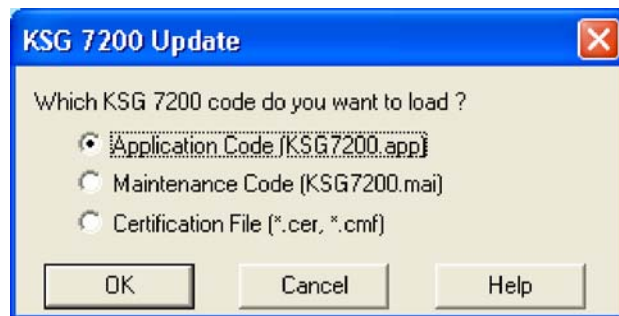

Figure 11. (Sheet 1 of 1) KSG 7200 Update Window (Application Code)
- (10) Insert the KSG 7200 APEX software CD-ROM, PN 222-30306-0000, into the CD-ROM drive of the PC.
- (11) Click on the KSG 7200 Dual Channel ADAHRS button and the KSG 7200 Update window will appear. Refer to Figure 11. Click the radio button to the left of the Application Code (KSG7200.app) update selection.